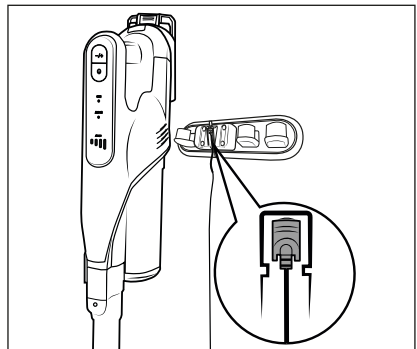

Fig. 6
- The battery indicator **27** starts flashing and the charging process starts (see Fig. 6 and 7).